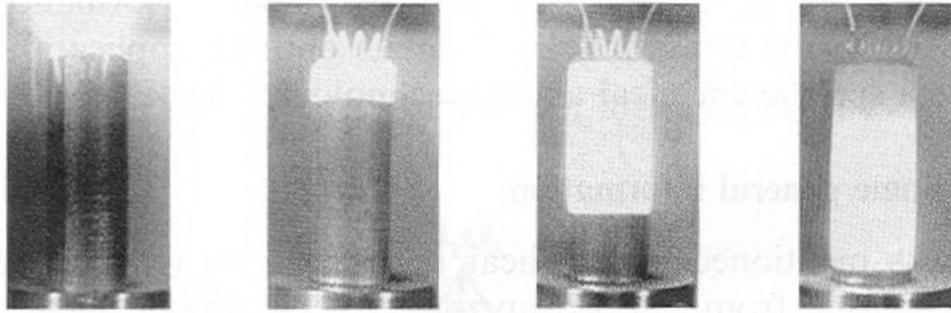

Fig. 1 Still frames of the combustion process.
**Figure 1.** In situ temperature measurement of the reaction  $\text{ZrCl}_4 + 4/3\text{Li}_3\text{N}$  by direct recording of a 0.1 mm chromel-alumel thermocouple inserted into the reaction mixture.